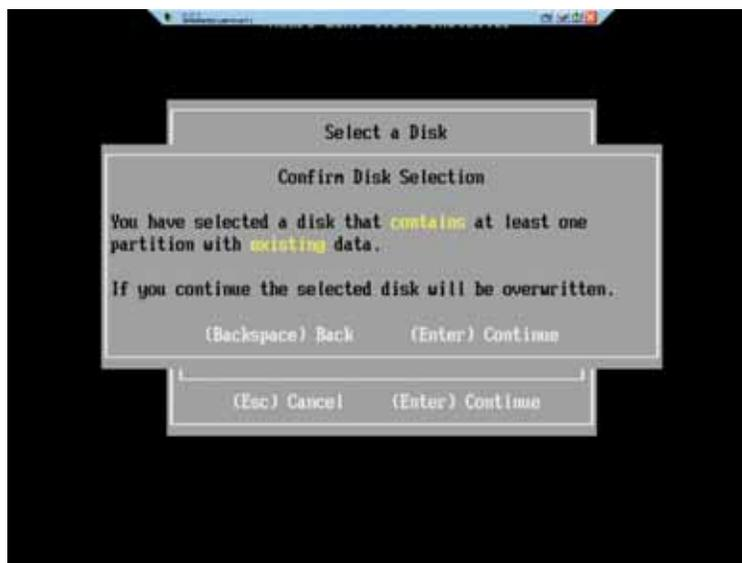

Figure 6 Confirm Install Dialog
Step 6 Press **Enter** to continue the installer until you see the Confirm Install dialog. See Figure 6.